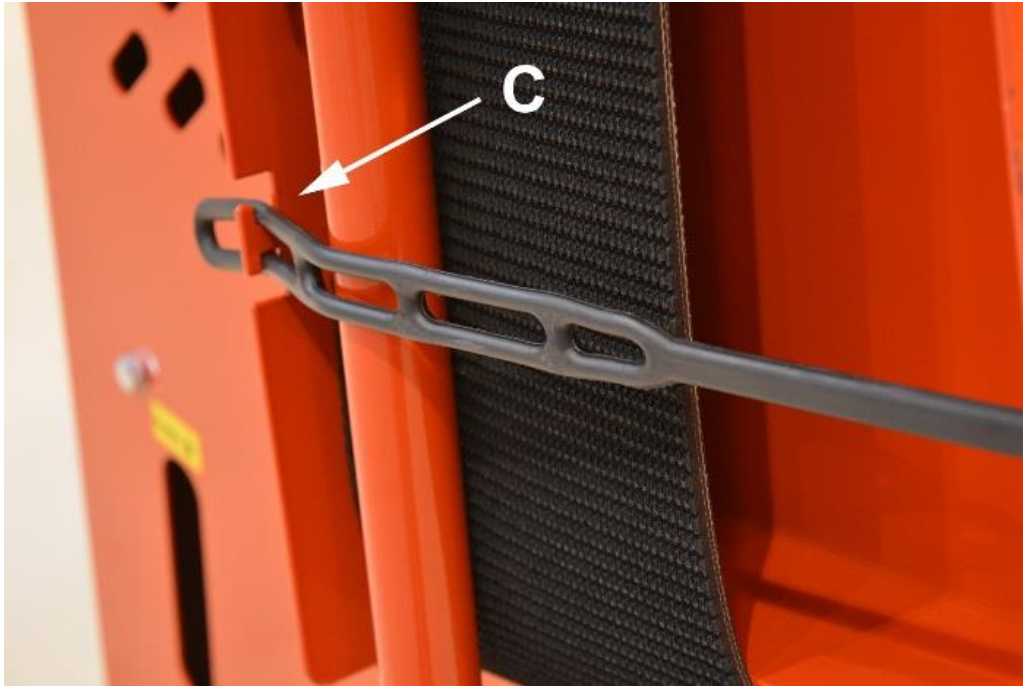
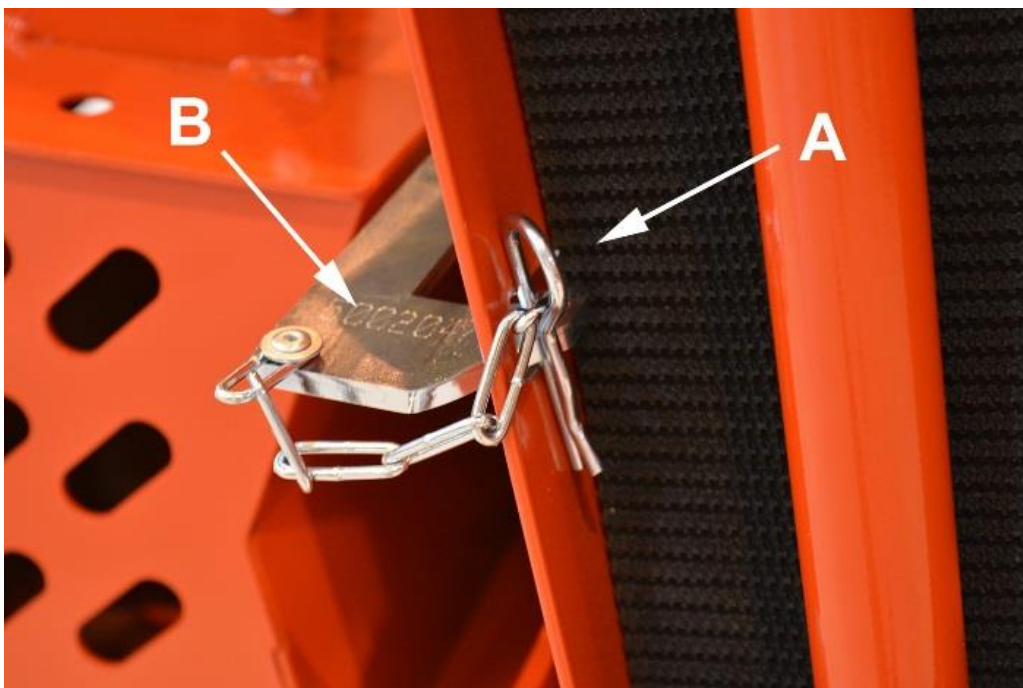

Figure 2.
Figure 3.
2. Remove the other end of the support leg holder C from the lug (Figure 2).
3. Release the lock by removing pin A and turning locking latch B out of its slot (Figure 3).
When placing the input conveyor in the transport position, lift the conveyor to the upper position, turn locking latch B into its slot and insert pin A (Figure 3). Use holder C to lock the support leg in place (Figure 2).